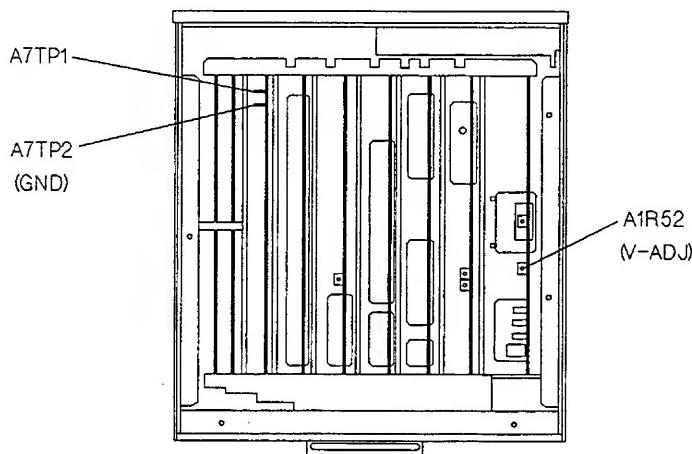

Figure 2-7. Power Supply Voltage Adjustment Location
3. Connect multimeter's Lo input to A7TP2 (**GND**), and connect the Hi input to A7TP1. Figure 2-7 shows the location of A7TP1 and A7TP2.
4. Turn A1R52 (V-ADJ) fully **CCW** (Counter Clock-Wise). Figure 2-7 shows A1R52's location.